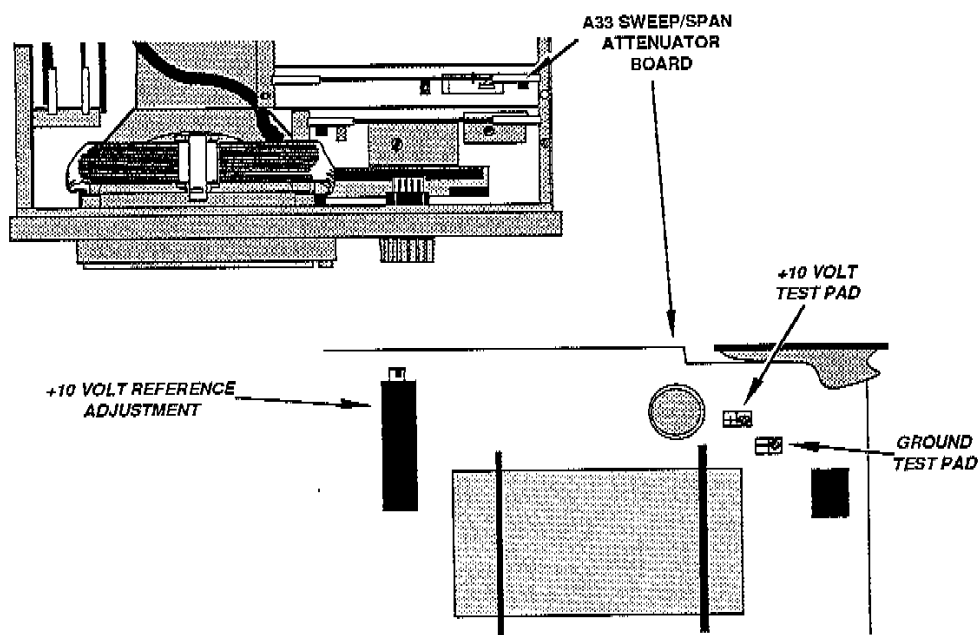

Figure 3-2. +10 Volt Reference Test Points and Adjustment.
2. Locate the two +10 V test points on the A33 Sweep/Span Attenuator board (see Figure 3-2). One test point provides access to the +10 V reference voltage, and the other test point provides access to a ground for the +10 V supply. This ground test point must be used when adjusting the +10 V reference.
4. With the digital voltmeter set for the 20 V scale, adjust the +10 Volt Reference adjustment (see Figure 3-2) for a reading of 10.00 volts, ± 0.01 volt.